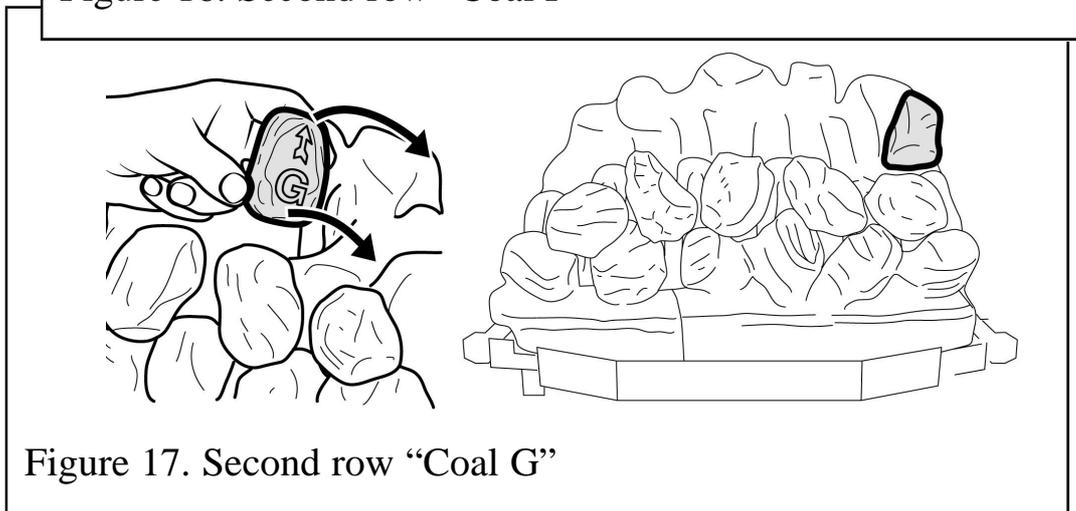

Figure 17. Second row "Coal G"
11. Hold coal 'G' upright with the arrow pointing to the top. Locate coal 'G' as shown in figure 17.